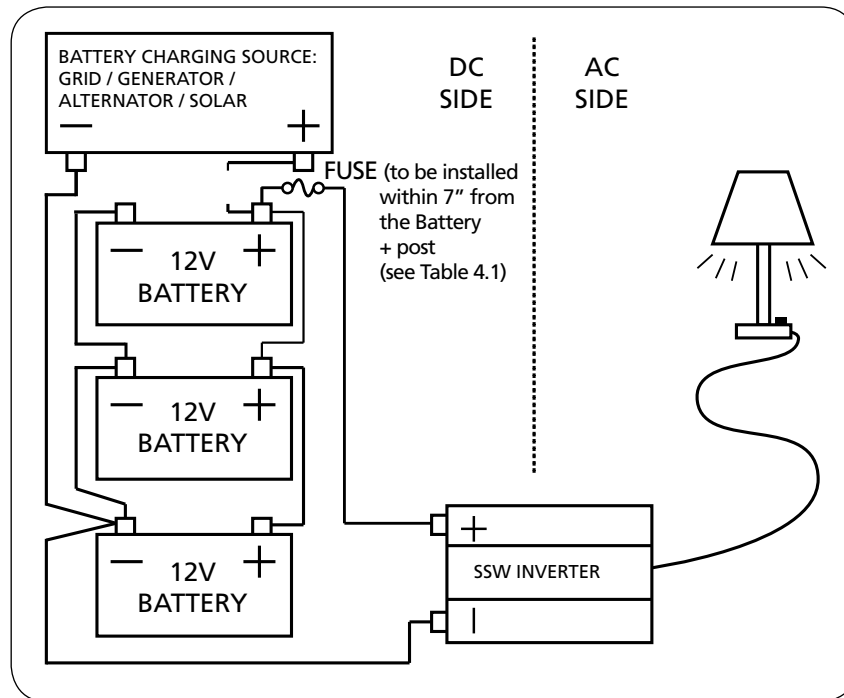

Fig 4.2 Connecting to a 12V Battery Source
The inverter will provide you nominal 115 VAC when powered by a 12 VDC source such as is found in a vehicle or multiple battery configurations as shown in Fig 4.2. **This manual does not describe all of the possible types of battery configurations, battery charging configurations and battery isolation configurations.**
For normal operation of the inverter, the DC power source must provide  $>11.0 \pm 0.3V$  and  $< 15.3 \pm 0.3V$  and the required current. This DC power source must be a well-regulated DC power supply or alternator and deep cycle battery system typically found in vehicles and marine crafts. The DC power source may also be two or more 12 volt batteries connected in parallel. On larger applications, the power source may be several batteries connected in parallel as shown in Fig 4.2.
It is mandatory to install appropriate size of external DC Fuse as close to the Battery Positive Post as possible, preferably within 7 inches to protect against fire hazard due to short circuit along the battery cable run (See Fig 4.2). A battery is an unlimited current source that can supply thousands of Amperes of current under short circuit conditions. If a short circuit occurs in the cable run at a point between the battery and the inverter, the section of the cable from the battery to the point of short circuit will be fed with thousands of Amperes of current, the section of the cable will overheat / melt and is likely to cause fire. It is, therefore, recommended that the fuse / fuse assembly should have Ampere Interrupting Capacity (AIC) of at least 10,000 A. Class-T Fuse / Fuse Holder made by various manufacturers or Marine Rated Battery Fuse (MRBF) made by Eaton Bussmann and distributed by Samlex America / Blue Sea Systems may be considered.
5. Install a fuse holder close to the Positive (+) terminal of the battery (or other DC source), preferably within 7" of the terminal (see Fig 4.2). When Marine Rated Battery Fuse (MRBF) and associated Fuse Block recommended at column 5 of Table 4.1 are used, the fuse will be installed on top of the battery Positive post/stud.